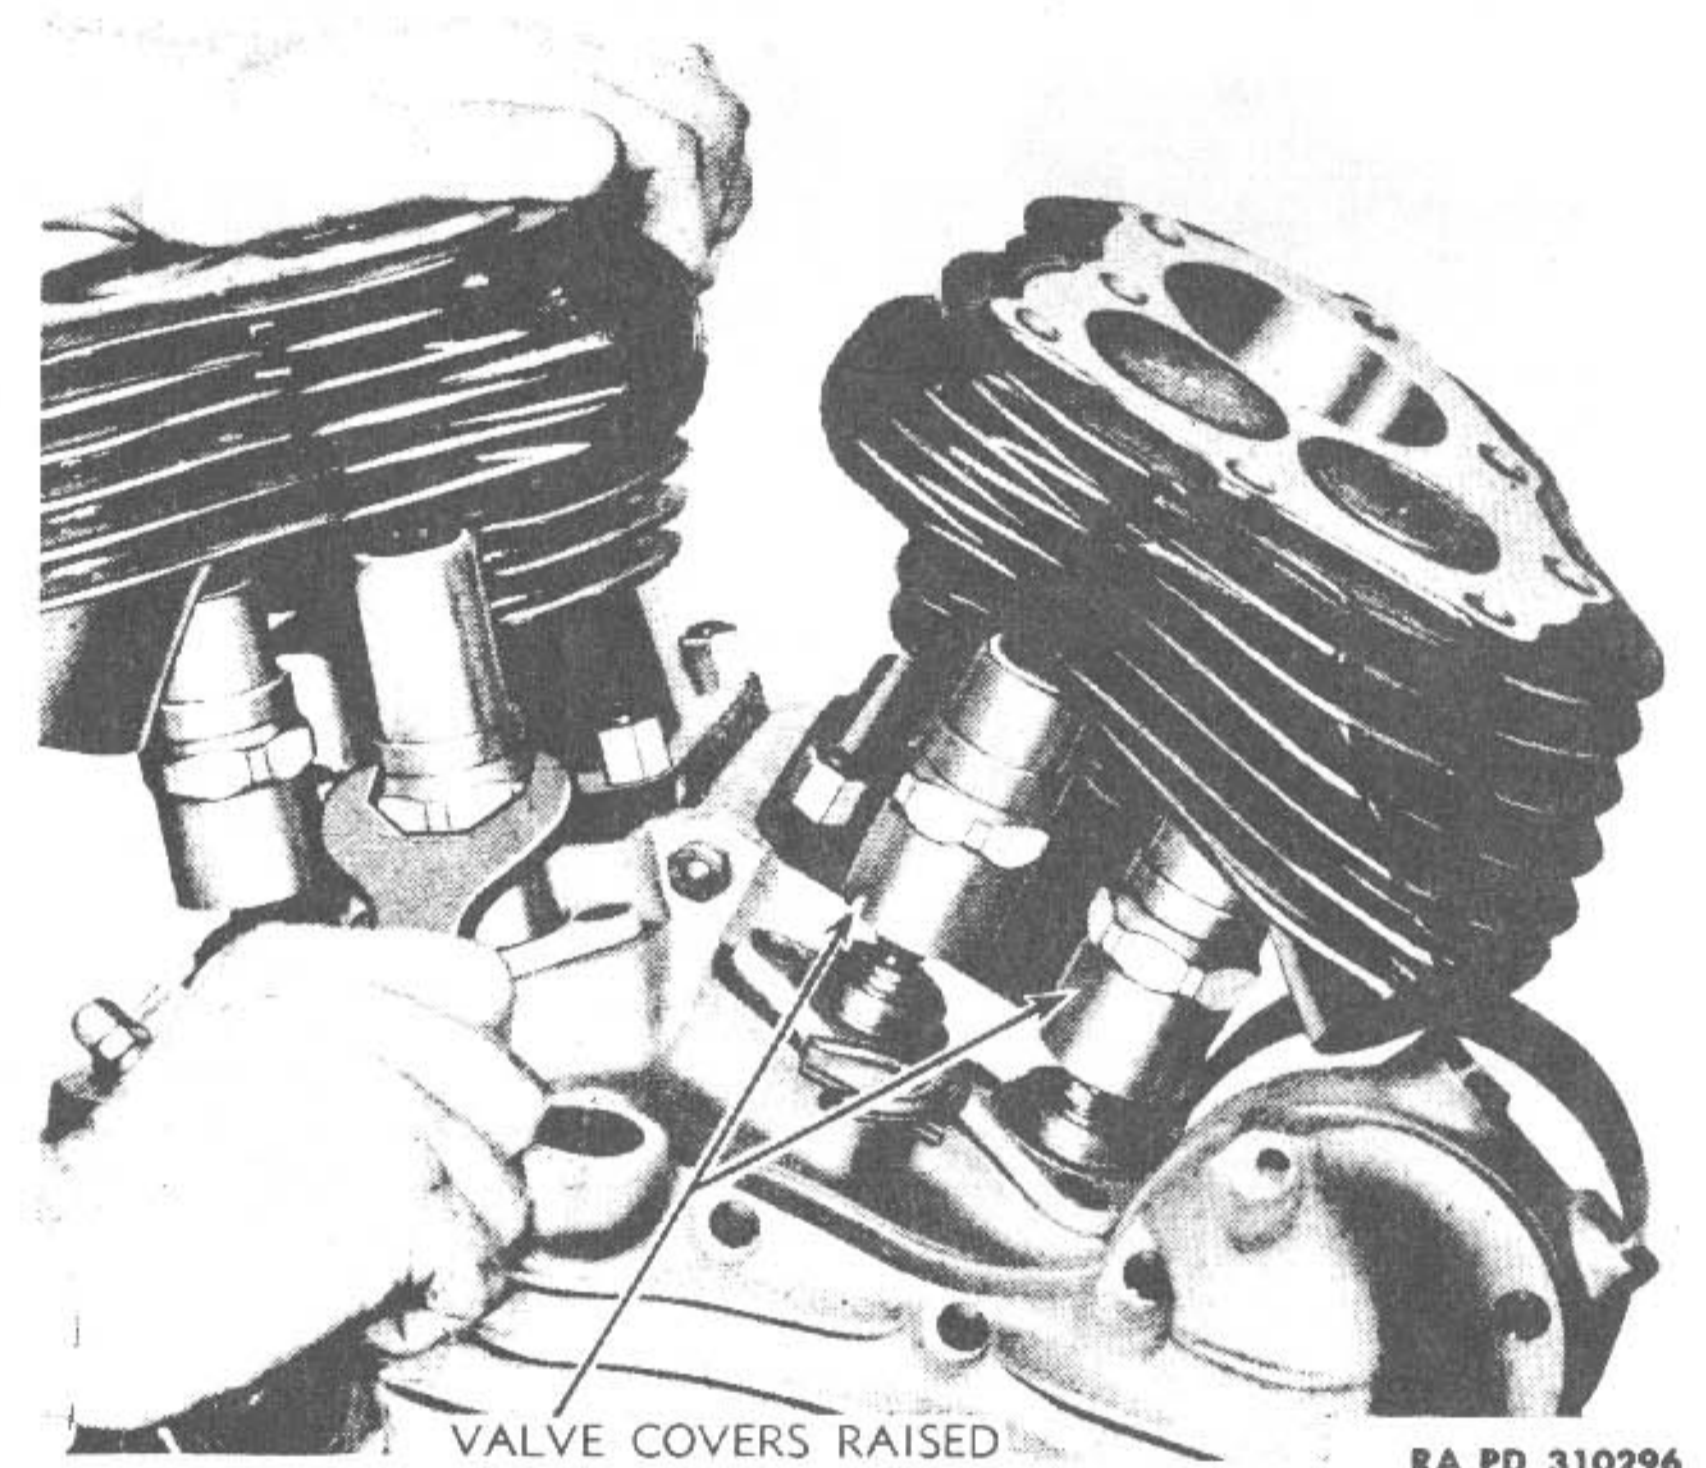
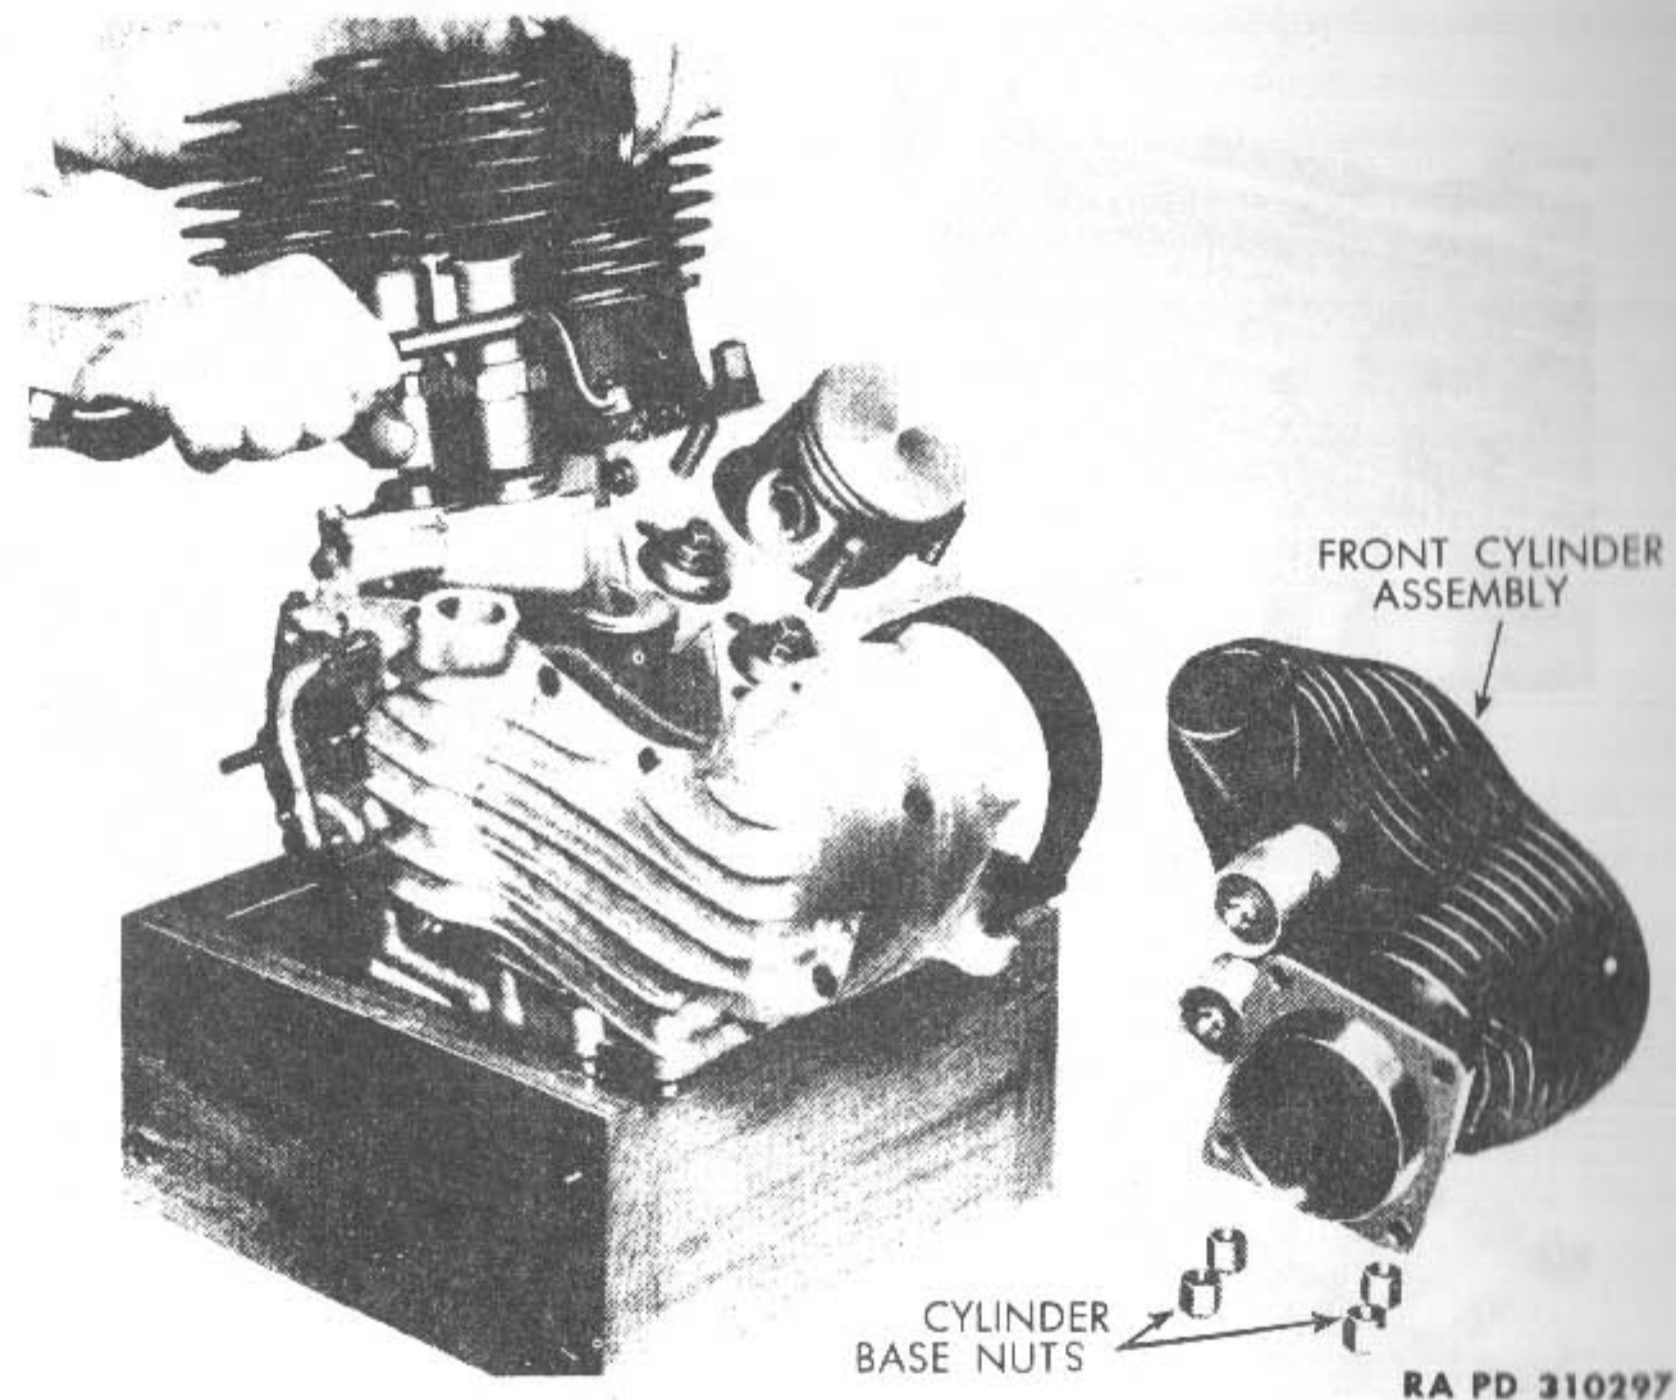

Figure 3—Freeing Valve Covers with Wrench (41-W-3617)
Figure 4—Removing Cylinder Base Nuts with Wrench (41-W-872-10)
(1) Use valve cover wrench (41-W-3617) to loosen and unscrew lower valve covers (fig. 3). To facilitate lifting valve covers, and prevent damage to packing gaskets, use small amount of light oil around top edge of covers.
(2) Disconnect spark control wire at circuit breaker lever.
(3) Remove nut and bolt from clamp securing front exhaust pipe to right footboard side bar.
(4) Use special cylinder base nut wrench (41-W-872-10) and remove all base nuts (fig. 4), except one on rear cylinder. While crank-